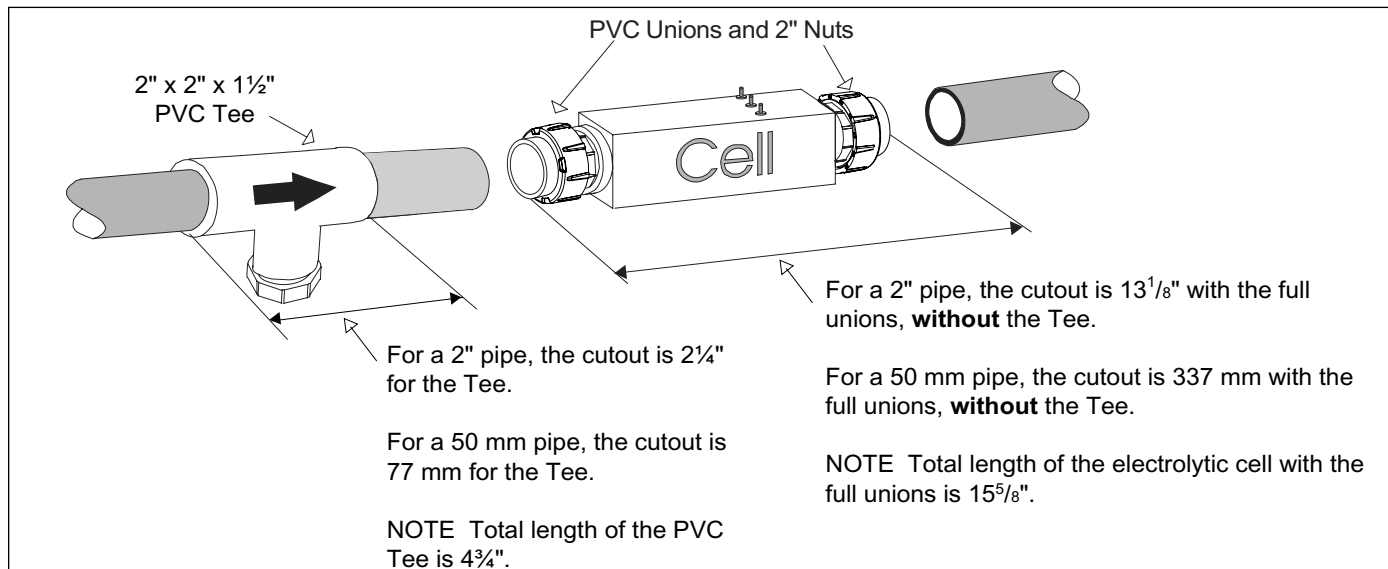

Figure 13. Pipe Cutout
5. Cut out a 13 $\frac{1}{8}$ " (337 mm) section of the 2" (50 mm) pipe to insert the Cell. Cut an additional 2 $\frac{1}{4}$ " to insert the Flow/Temp/Salinity Sensor Assembly (see Figure 13).